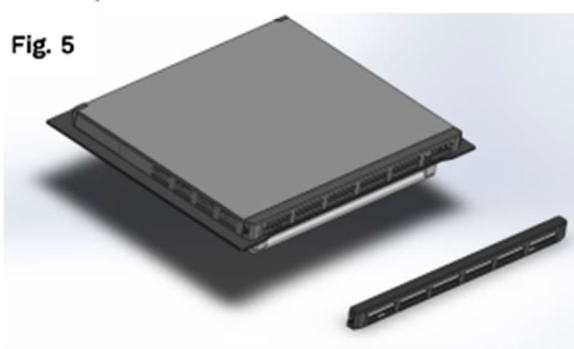

Fig. 5
1. Unscrew the top panel (shown in Fig. 5) and carefully lift the panel off.